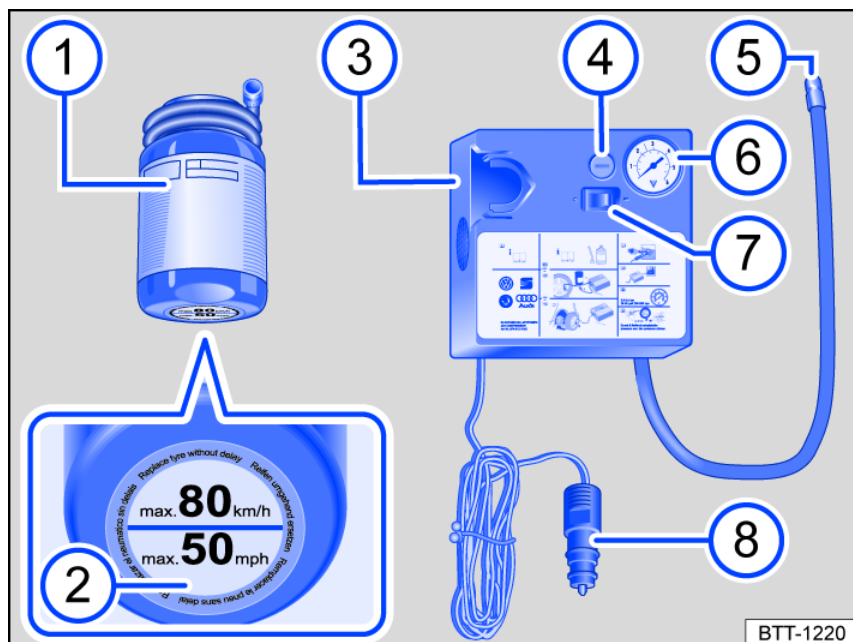

Fig. 180 General example: components of the tire mobility set.
- Shake the tire inflation bottle *fig. 180* vigorously back and forth a few times.
- Screw the air compressor tire filler hose *fig. 180* securely onto the tire filler bottle *fig. 180* valve.
- Screw the tire inflation hose of the tire inflation bottle *fig. 180* securely onto the tire valve.
- Hold the bottle upside down and fit the top of the tire filler bottle into the notch on the air compressor *fig. 180* .
- Place the air compressor *fig. 180* together with the tire filler bottle *fig. 180* on an even surface.
- Insert the 12-volt plug *fig. 180* into a 12-volt-socket in the vehicle ⇒ *Sockets in the vehicle*.
- Switch the air compressor on with the ON and OFF switch *fig. 180* .
- Connect the tire filler hose *fig. 180* again and read the tire pressure off the tire pressure gauge *fig. 180* .